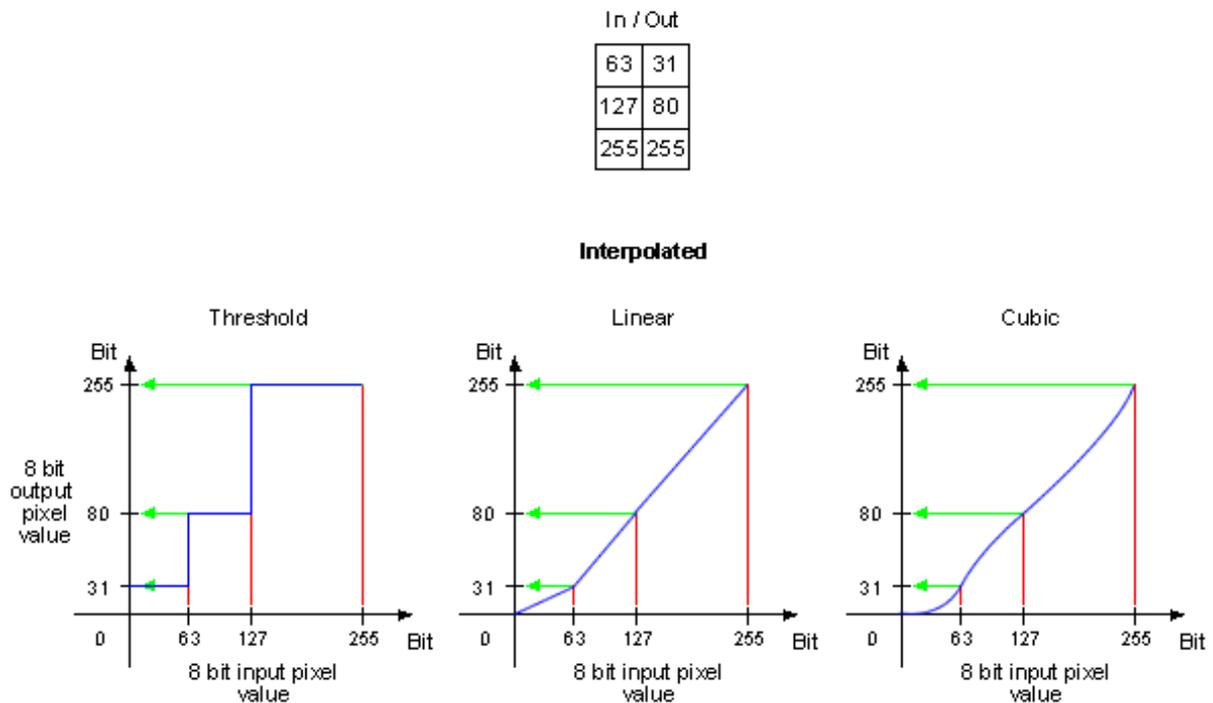

Figure 2: LUTMode "Interpolated" -> LUTInterpolationMode
4. Now you can set the range from 0 to 255 and the values from 255 to 0 as shown in Figure 2.